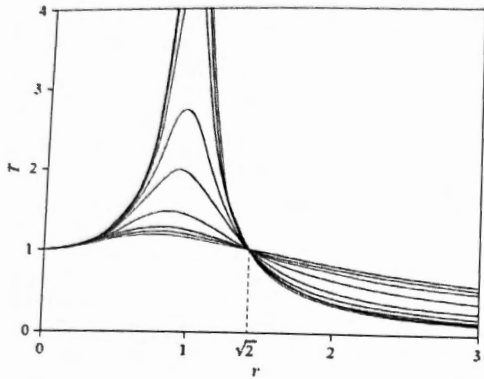

Figure 6b
- Explain the characteristics of the graphs in respect of increasing damping ratio, ζ , Use Fig 6b